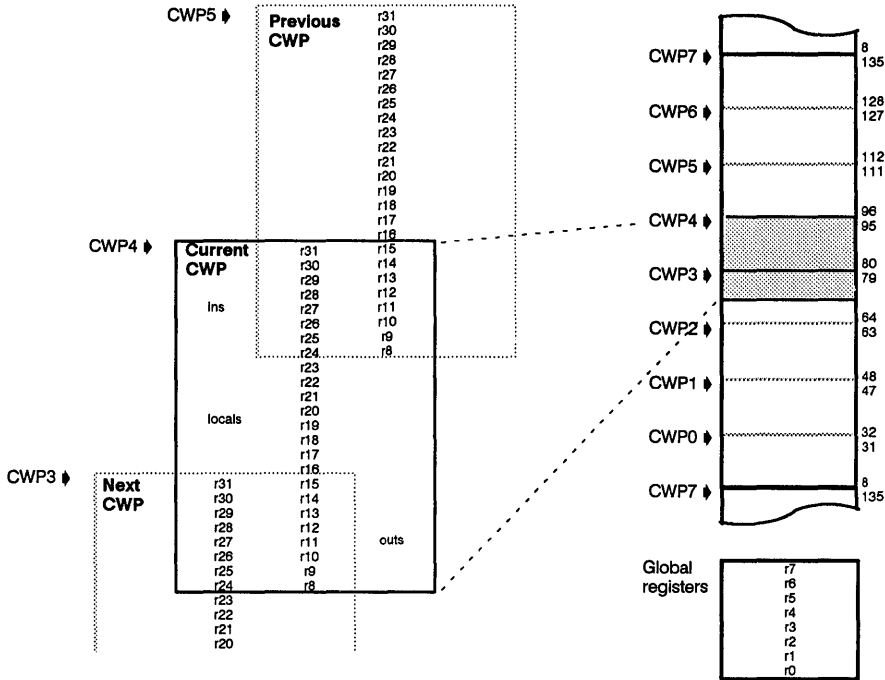

Figure 1. CWP register addressing
***r* Register Addressing.** *r* registers *r*8 through *r*31 are addressed internally using the register number and current window pointer (CWP) field of the processor status register (PSR; see next section). The CWP is essentially an index field for *r* register addressing, and acts as a pointer to a group of 24 registers. *Figure 1* illustrates *r* register addressing using the CWP. Incrementing or decrementing the CWP changes the register offset by 16, thereby causing the register addressing to overlap by eight registers. This allows *r*24